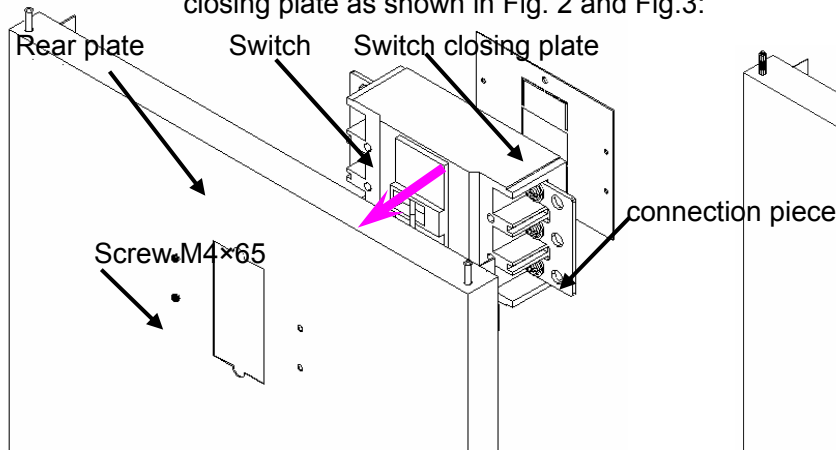
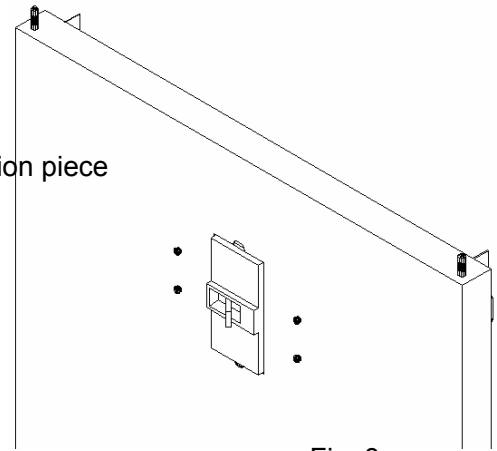

Fig. 2
Fig. 3
- (2) Secure the battery cabinet switch connection piece onto the switch, and use four pieces of screw M4x65 to through the rear plate and fix switch on switch closing plate as shown in Fig. 2 and Fig.3: